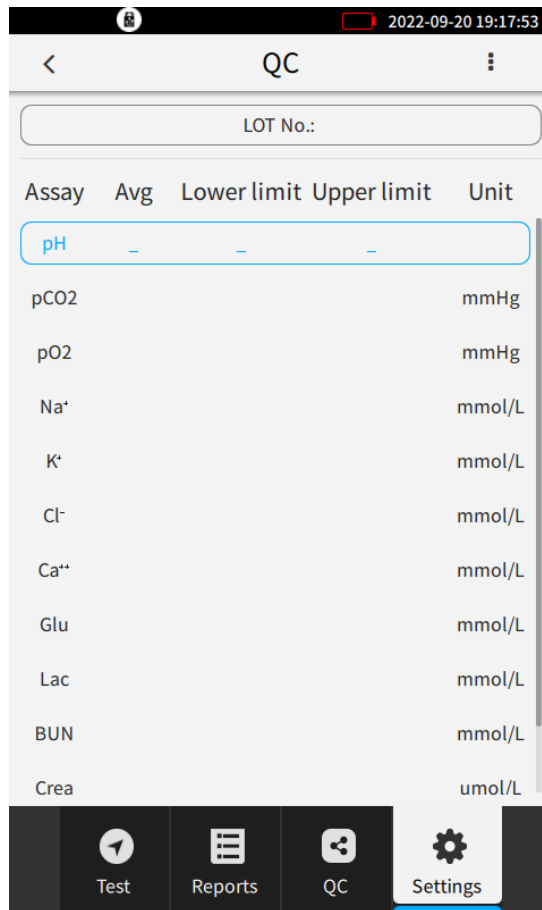

Figure 3-9
**control setting** interface as shown in Figure 3-9; click , The currently selected QC information can be deleted.